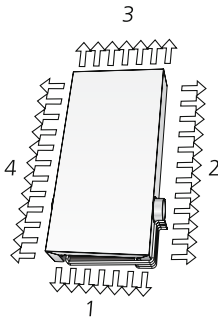
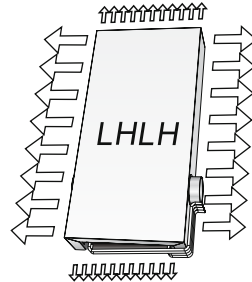

Figure 18. Top view, nozzle setting, ADAPT Parasol EX two-module unit, sides 1-4.
Figure 19. Nozzle setting example, ADAPT Parasol EX two-module unit - LHLH.
***) All four sides on the unit can be set individually. The designation of the nozzle setting follows the order according to Figure 18. See Figure 19 for example.